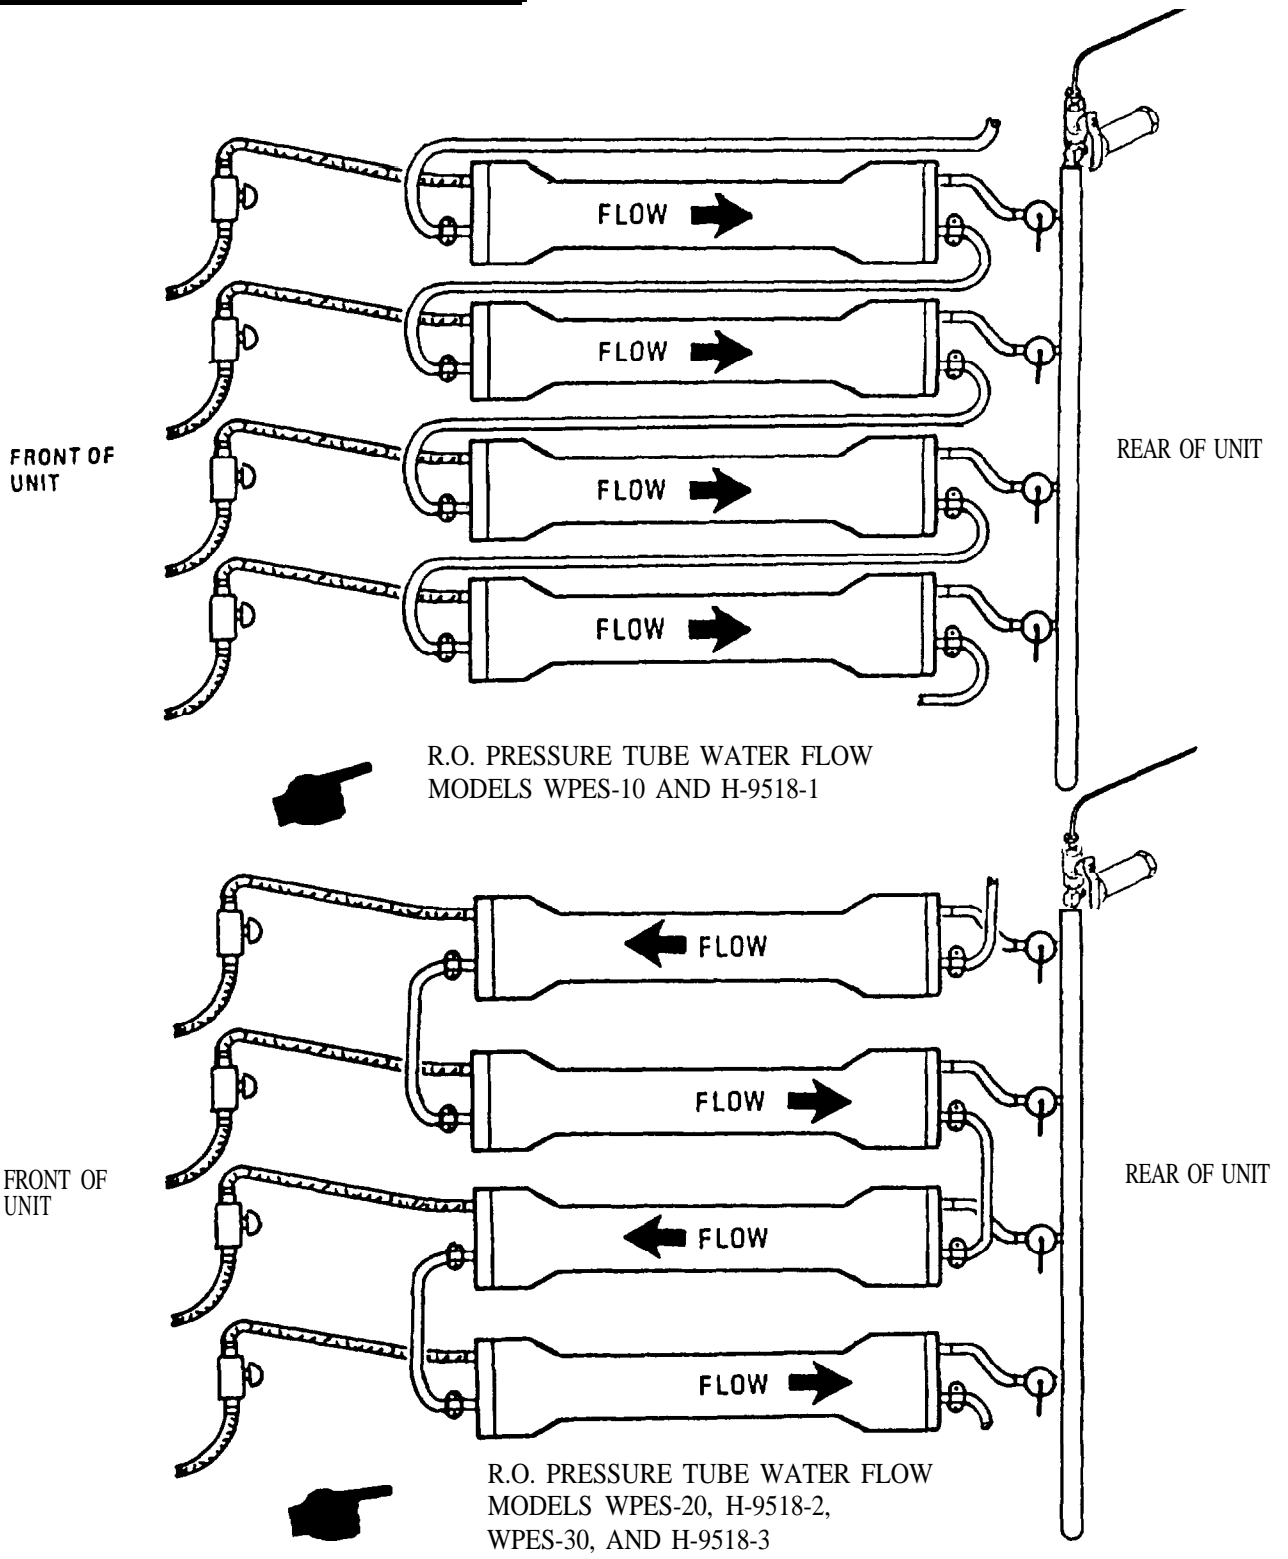

Figure 3-2. R.O. Pressure Tube Water Flow.
- Because of obstruction by generator set, Models WPES-10 and H-9518-1 users must remove and install R.O. elements from front of unit. Elements are removed opposite direction of flow and installed in direction of flow. Refer to figure 3-2.
- Models WPES-20, H-9518-2, WPES-30 and H-9518-3, users must remove top and second from bottom elements from front of unit, and install through rear of unit. The bottom and second from top elements are removed from the rear of the unit and installed through the front of the unit. Remove elements in direction of flow and install in direction of flow. Refer to figure 3-2.
On Models WPES-20, H-9518-2, WPES-30, and H-9518-3 the top and second from bottom R.O. pressure tubes have reverse flow direction. Open end of brine seal must face opposite the direction of flow. Refer to figure 3-2.